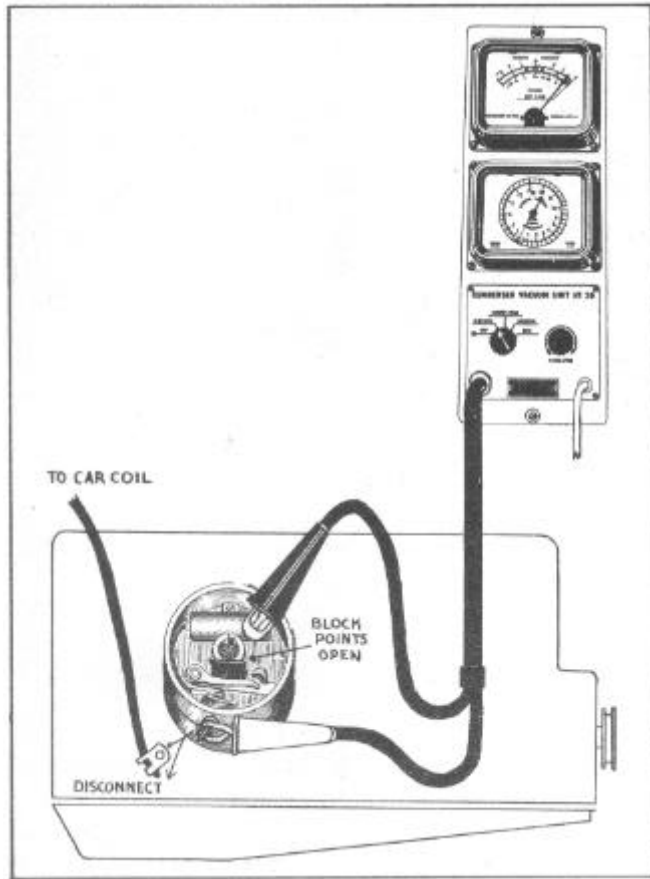

FIGURE 15
4. Connect the red lead to the distributor primary terminal and connect the black lead to the condenser shell, Figure 15.